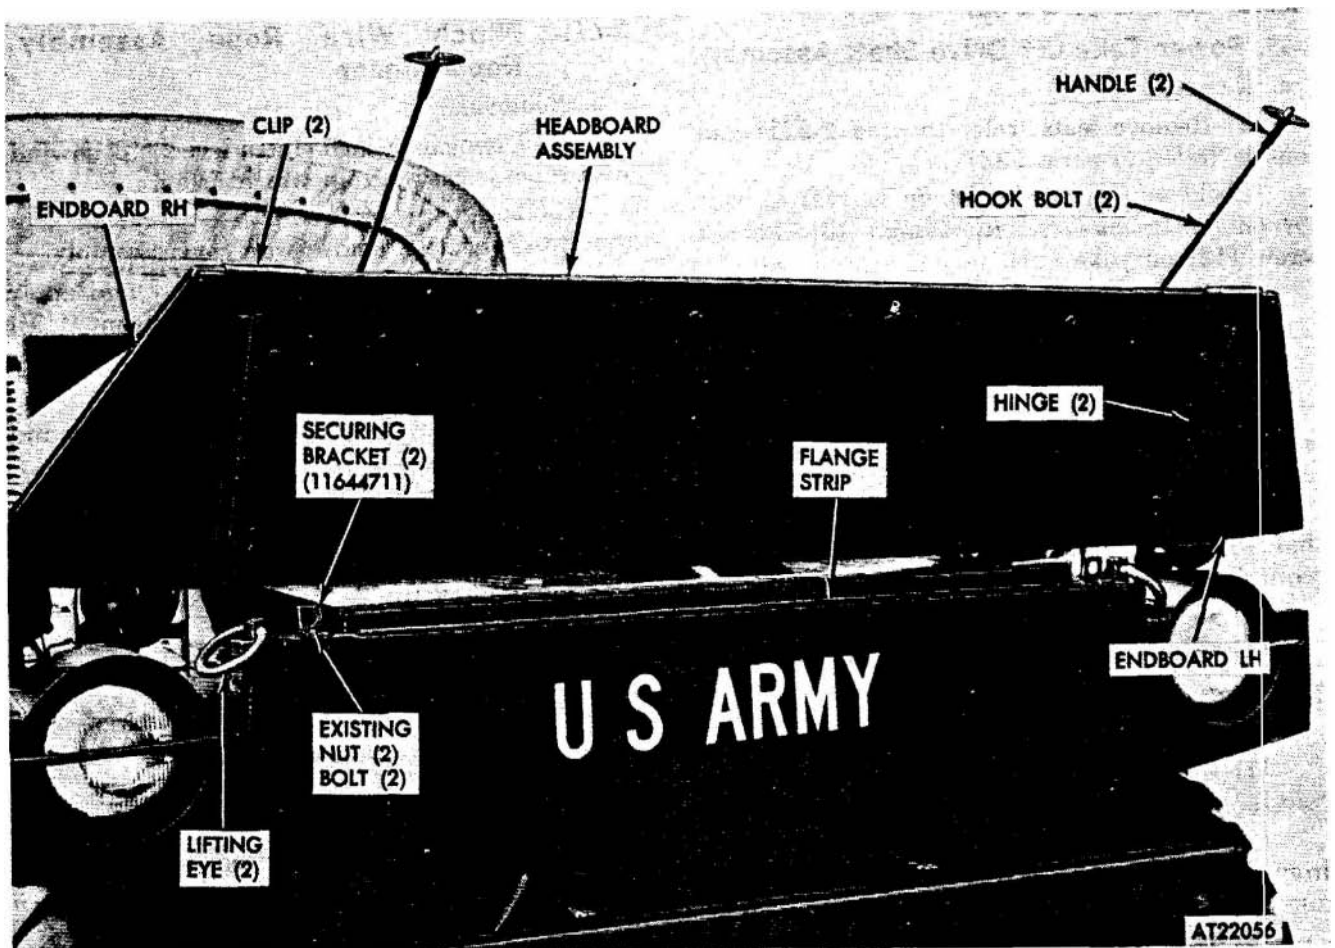

Figure 3-47. Securing brackets, locations.
b. The angle brackets are utilized for **securing** the surfing components to the front of the vehicle. Install the brackets on the flange strip at the front of the vehicle (fig 3-47) using the existing nut and bolt, quantity 2 each, located farthest outboard next to the front lifting eyes. The angle **brackets** are to be positioned so that the leg with the large hole is aft of the screw head. When the surfing components are removed for stowage, the brackets are to remain installed.